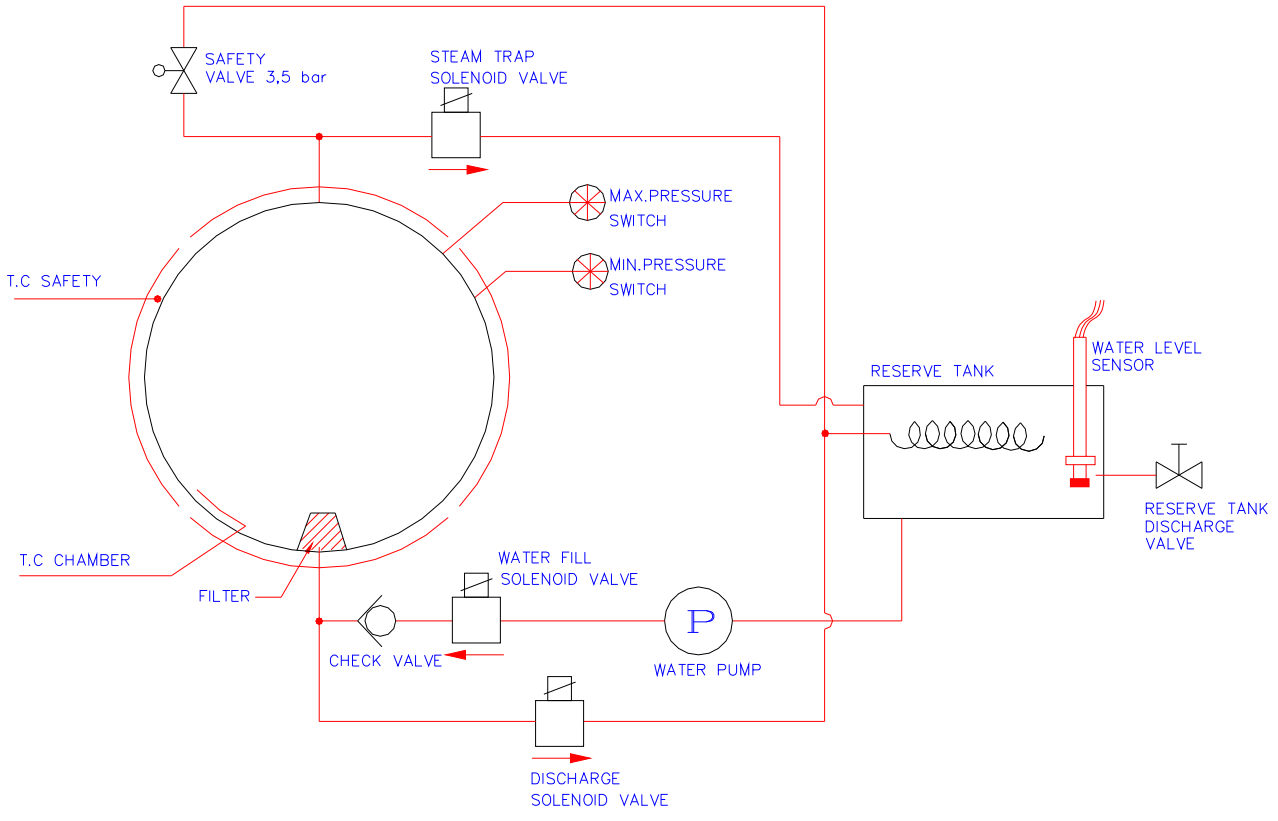
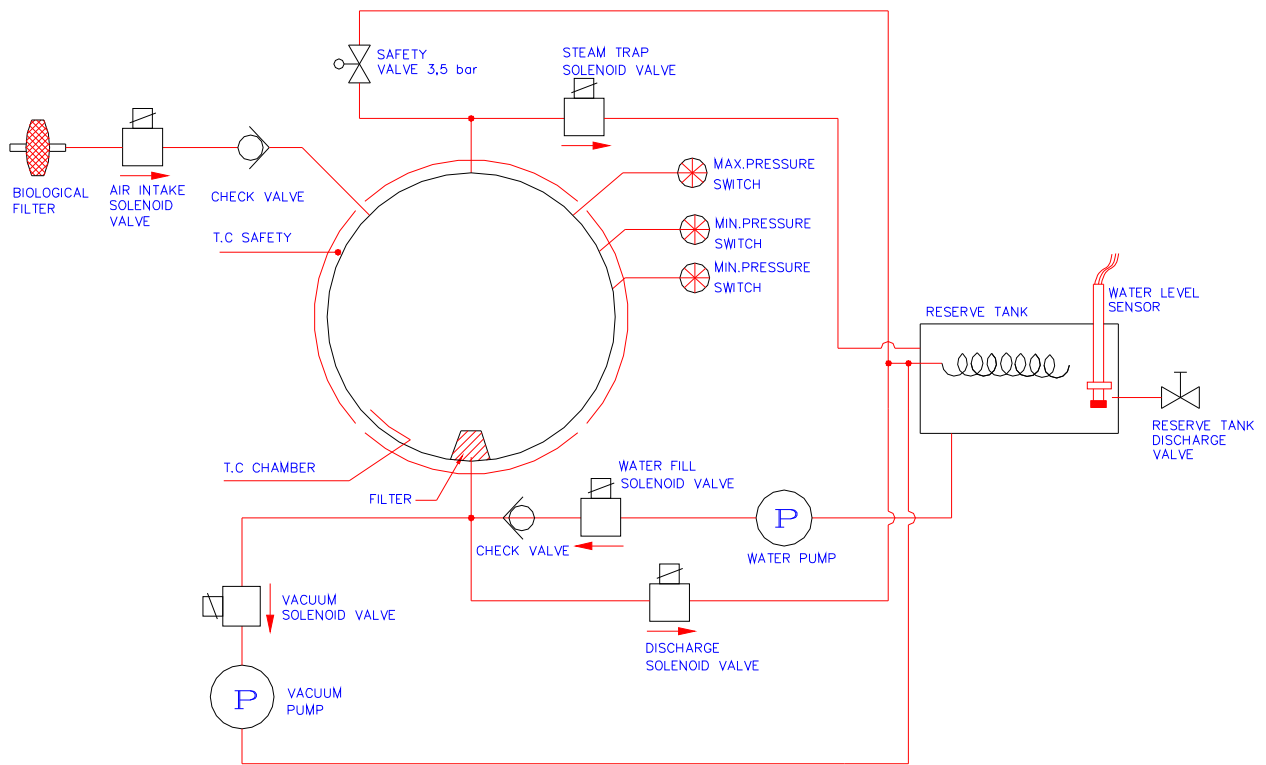

Figure 5- OT 020 flow diagram
Figure 6- OT 020V flow diagram
- Remove the solenoid valve (25) inlet and outlet hoses by loosening the connection nuts.
- Mount the new solenoid valve as its arrow direction is shown in the water and steam unit diagram (Figure 5 or Figure 6)
- Remove the solenoid valve (17) bobbin socket after removing its screw.
- Remove the solenoid valve (17) without moving the check valve and remove the connection adaptors on the solenoid valve.
- Mount the new solenoid valve as its arrow direction is shown in the water and steam unit diagram (Figure 5 or Figure 6).
- Remove the solenoid valve (18) bobbin socket after removing the screw.
- Remove the solenoid valve (18) inlet and outlet hoses by loosening its connection nuts.
- Remove the solenoid valve (19) bobbin socket after removing its screw.
- Remove the solenoid valve (19) inlet and outlet hoses by loosening its connection nuts.
- Mount the new solenoid valve as its arrow direction is shown in the water and steam unit diagram (figure 5 or Figure 6)
- Remove the water filling check valve (27) with their connection adaptors.
- Fix the new check valve as its arrow direction is shown in the water and steam unit diagram (Figure 5 or Figure 6)